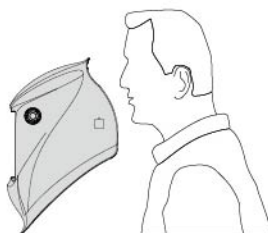

fig.11
- Orient helmet shell so that the inside of the helmet is facing your chest (See fig.11).